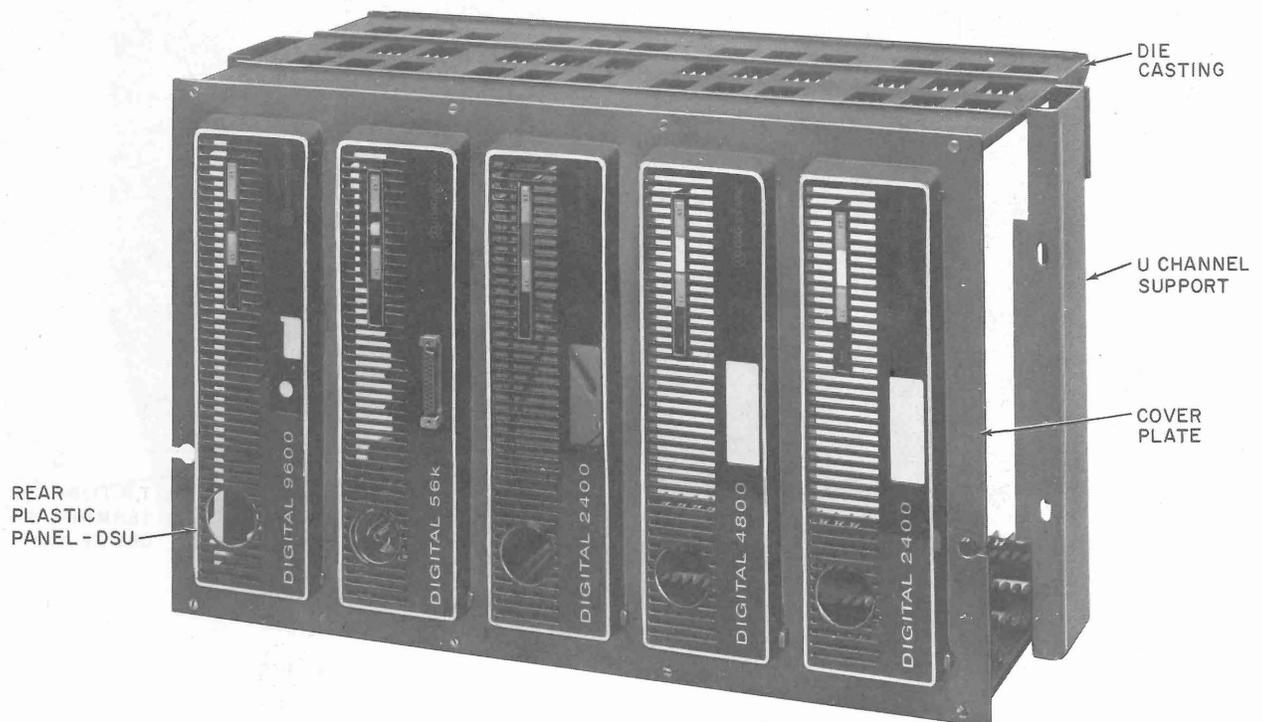

Fig. 1—48A-Type Data Mounting Showing Cover Plate with Five 500A Rear Panels
**1.01** This section contains a physical and functional description of the 48A-type data mounting (Fig. 1).
weighs approximately 13 pounds, and is finished in matte black. It consists of two horizontally-mounted die castings secured to two vertical U-channel supports. A cover plate is attached to the front of the die castings and has five large rectangular cutouts to hold the rear plastic panels of the individual DSUs or the mounting plates of the CSUs (Fig. 1). Write-on type labels are positioned on the cover plate above each cutout for circuit and trouble numbers. Ten 4-position terminal strips are mounted on the upper and lower die castings at each of the five mounting positions to which the T, R, T1, and R1 leads of the CSU or DSU are connected. These terminal strips are connected via local cable to a 50-pin connector on the U-channel support. The adapted CSUs and DSUs slide into the data mounting in printed wiring board fashion. Notched metal strips on the die castings guide the units into the proper slots. The lower strip is
**2.03** The 48A-type data mounting is designed to accommodate both individual and multiple mountings of up to five 500A-type DSUs (Fig. 1). By removing the plastic end panels and outer cover, the DSU is easily adapted for multiple mounting arrangement.